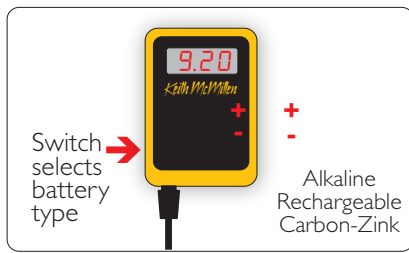

Figure 2
2. Plug the probe into the output of the instrument. (Figure 2.)